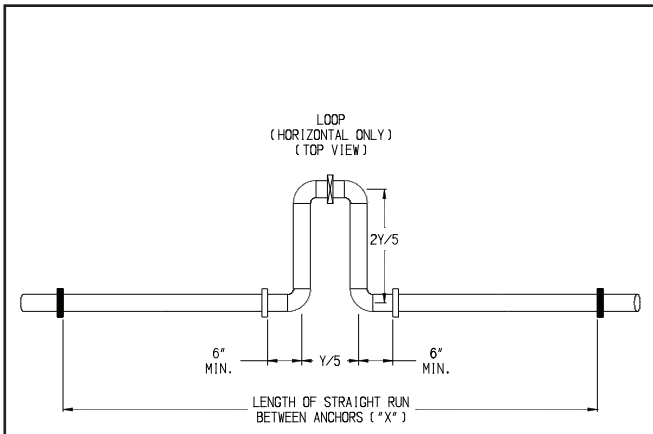
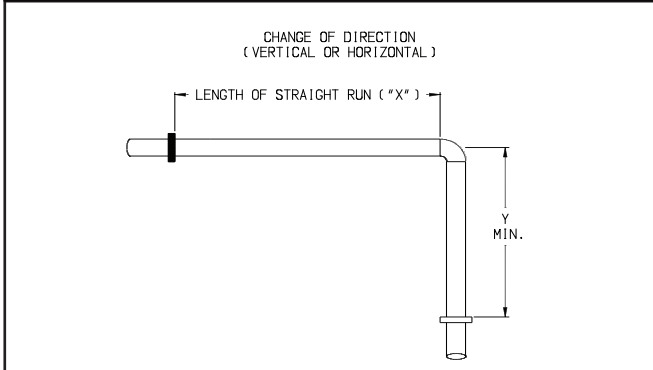

FIGURE 7.3a
FIGURE 7.3c
- Design the vent system to allow 3/8" of thermal expansion for every 10ft of CPVC/PVC pipe. The boiler will always act as an anchor to one end of the vent system. If at all possible, select and install hangers and wall thimbles so that the vent system can expand towards the terminal. When a straight run of pipe exceeds 20ft and must be restrained at both ends, an offset or expansion loop must be provided (Figures 7.3a, 7.3b). When a straight horizontal run of pipe exceeds 20ft and is restrained at one end with an elbow at the other, avoid putting a hanger or guide less than "Y" inches from the elbow in the adjoining straight section (Figure 7.3c). Thermal expansion fittings are not permitted.